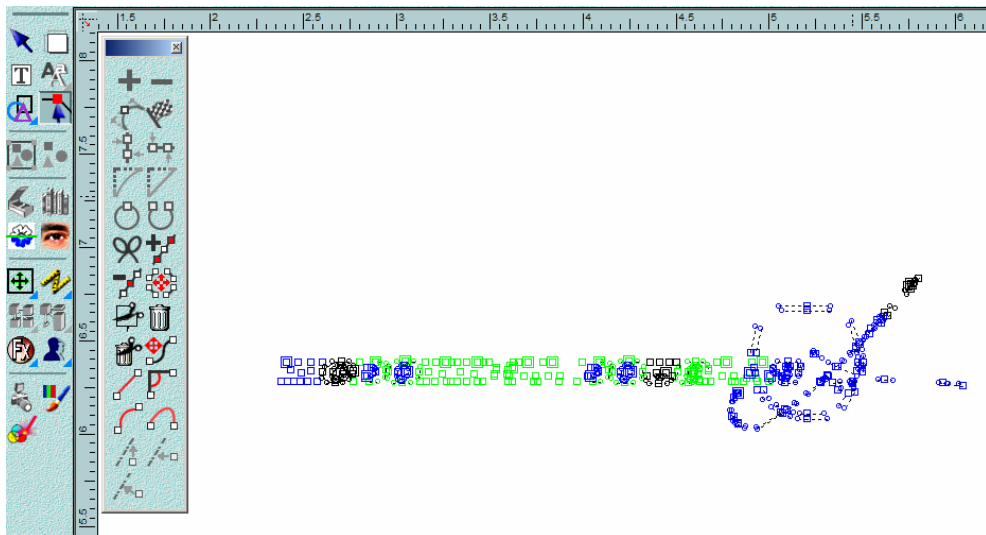

Figure 11-8 "Point Mode" Fly-Out Tool Pallet Open
- Find the tool labeled “Point Mode”  on the tool pallet at the left side of the screen. Click on it and its fly-out tool pallet opens (Figure 11-8). Notice that the dashed lines of the logo are now replaced by small colored boxes and